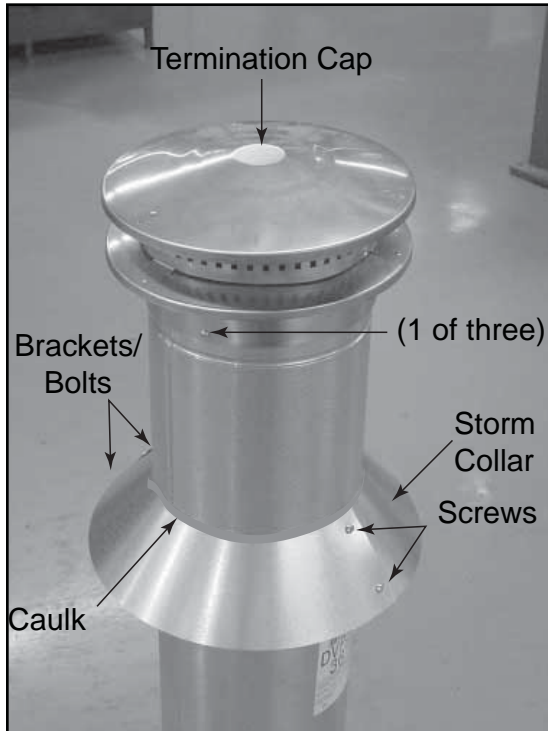

Figure 10.15 Install Vertical Termination Cap
- Caulk the perimeter of the flashing where it contacts the roof surface. See Figure 10.15.
- Secure the cap by driving three self-tapping screws (supplied) through the pilot holes in the outer collar of the cap into the outer flue of the pipe (see Figure 10.15).